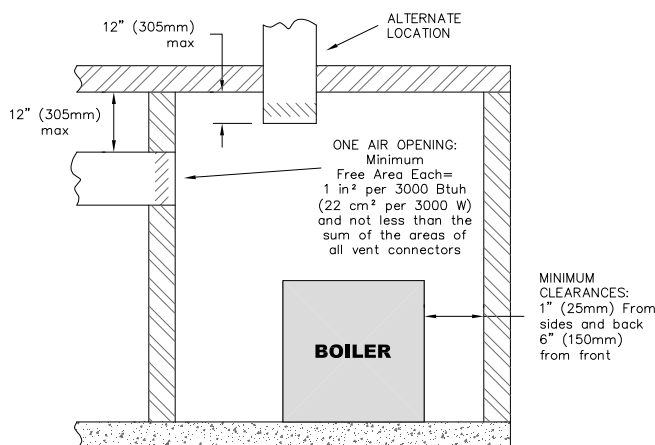

Figure 1.7: Air Openings – All Air from Outdoors through One Opening
- b. One Permanent Opening Method: Provide one permanent opening beginning within 12 inches (305 mm) of the top of the space. The opening shall communicate directly with the outdoors, communicate through a vertical or horizontal duct, or communicate with a space that freely communicates with the outdoors. The opening shall have a minimum free area of 1 in² per 3000 Btu/hr of total rated input for all appliances in the space and not less than the sum of the cross-sectional areas of all vent connectors in the space. The gas-fired equipment shall have clearances of at least 1 inch (25 mm) from the sides and back and 6 inches (150 mm) from the front of the appliance. See Figure 1.7 for this arrangement.